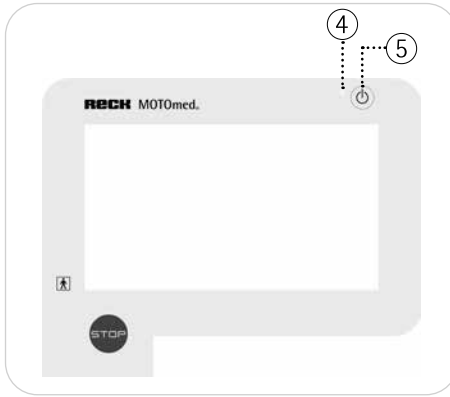

Fig. 4.7
see Fig. 4.7 You will recognize this by the green LED indicator ④ on the operating panel.